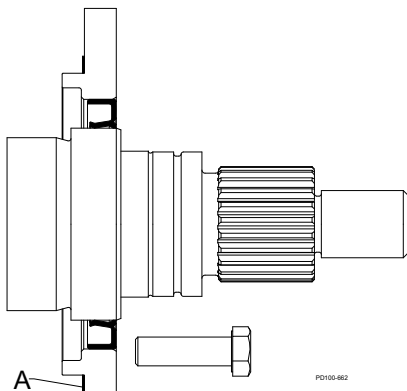

Figure 196 - Remove Sealant from Retainer
- Remove the silicone sealant (Figure 196, item A) from the bearing retainer and gear case.